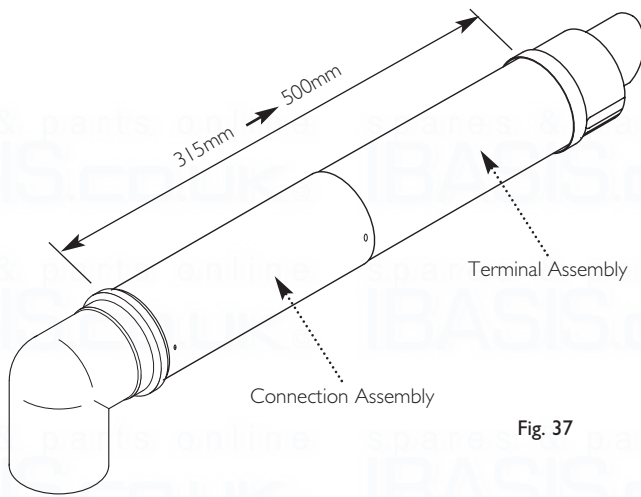

Fig. 37
2. The two sections can be adjusted to provide a length between 315mm and 500mm (Fig. 37) when measured from the flue elbow (there is 50mm engagement into the elbow).